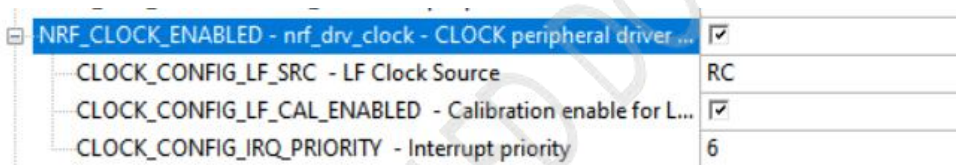

Figure 5.2: NRF\_CLOCK\_ENABLED
- Unfold“nRF\_Drivers”->“NRF\_CLOCK\_ENABLED”Please modify as shown in Figure 5.2: